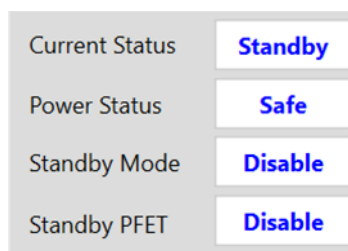

Figure 34: Status Monitor
3. Check the status monitor (see Figure 34).